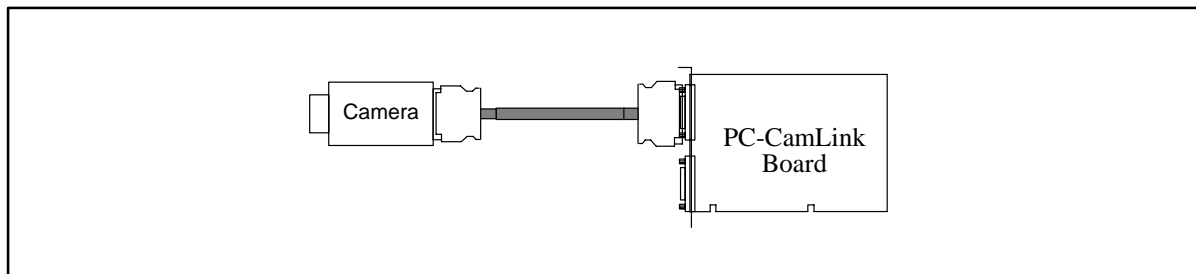

Figure 4. Camera Connection
2. Connect your video source to the 26-pin Camera Link connector. Refer to Figure 4.